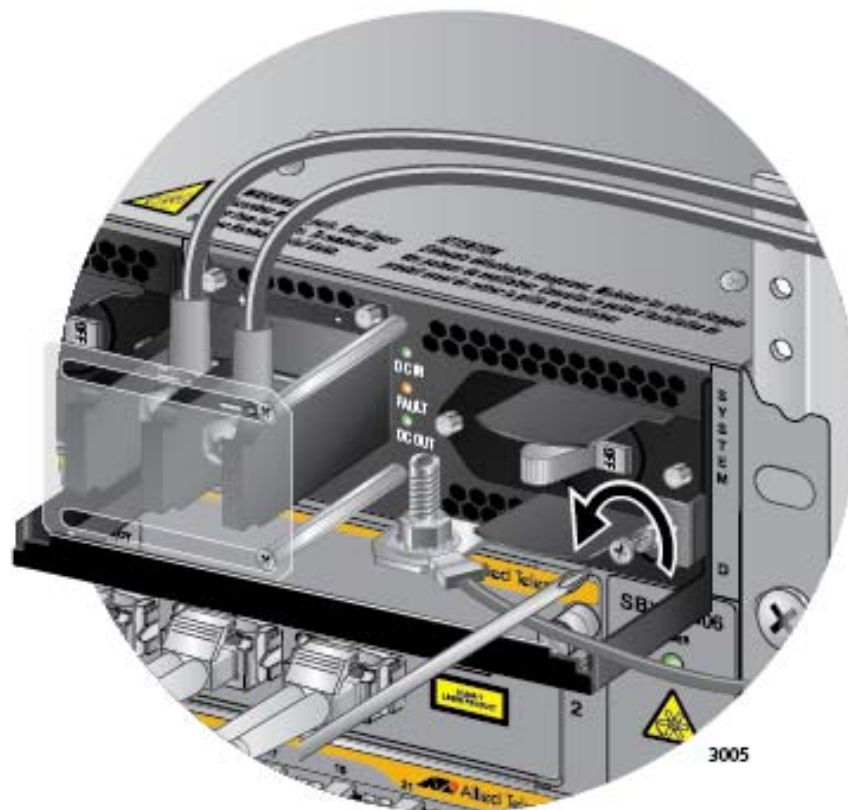

Figure 152. Loosening the Screw on the Locking Handle
3. Use a #2 screwdriver to loosen the screw on the locking handle. Refer to Figure 152.